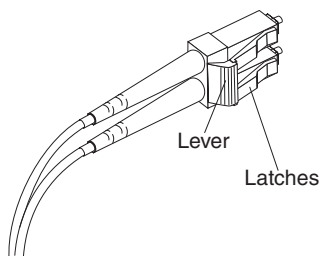

Figure 3-20. LC-LC Fibre Channel cable lever and latches
1. At the end of the cable that connects into the LC connector end of the LC-SC cable adapter, press down and hold the lever to release the latches. Figure 3-20 on page 3-14 shows the location of the lever and latches.